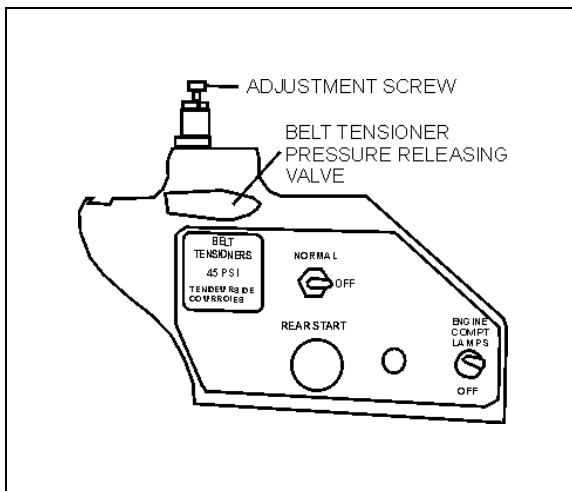

FIGURE 10: BELT TENSIONER VALVE 12200
- Locate the A/C compressor belt tensioner pressure releasing valve (Fig. 10). Turn pressure releasing valve handle counterclockwise in order to release pressure in belt-tensioner air bellows and loosen belts. Remove the belts.